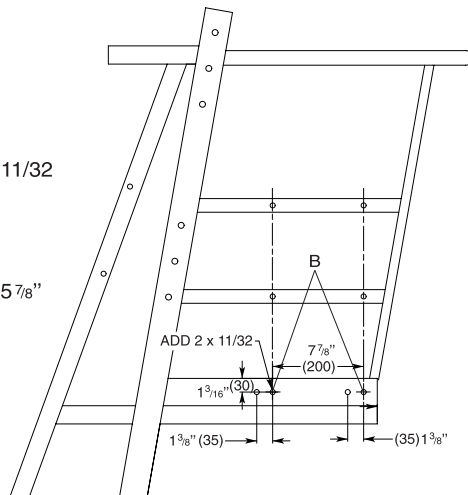

Fig. 8
2. Position tank mounting bracket on the outside of the platform according to (Fig. 8). Clamp into position and mark hole location for the remaining bolts using previously drilled holes in bracket as a template. Drill (2) 11/32" holes (pos B).